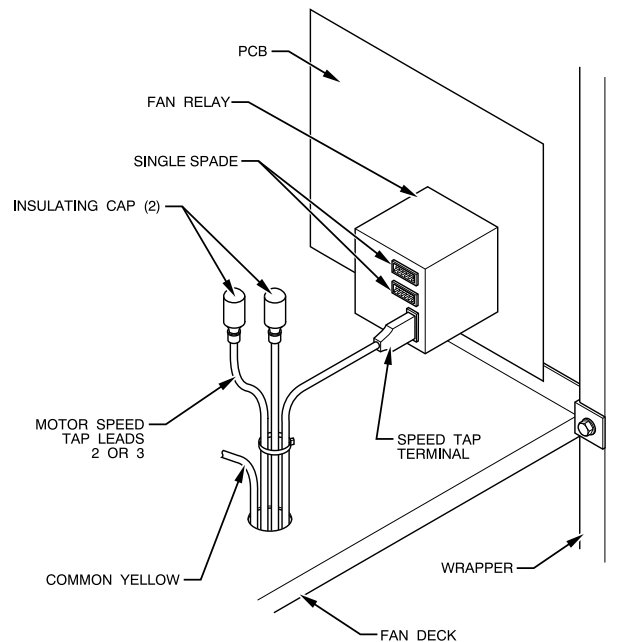

Fig. 21 – PSC Motor Speed Tap and Fan Relay
1. Speed tap selection is done at the fan relay. To change motor speeds, disconnect the fan lead on the relay and replace with the motor speed tap desired. Save the insulating cap and place it on the motor lead that was removed from the relay (Fig. 21). Refer to Table 4 for further clarification of speed tap selections.